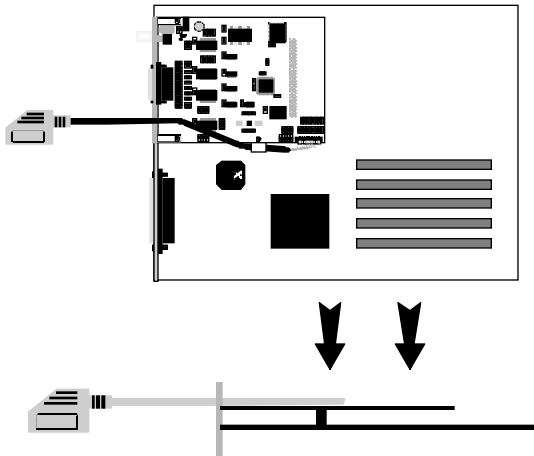

figure 2.5
- ▲ Gently press the card straight down onto the controller board until the unit is firmly in place. (See fig. 2.5)